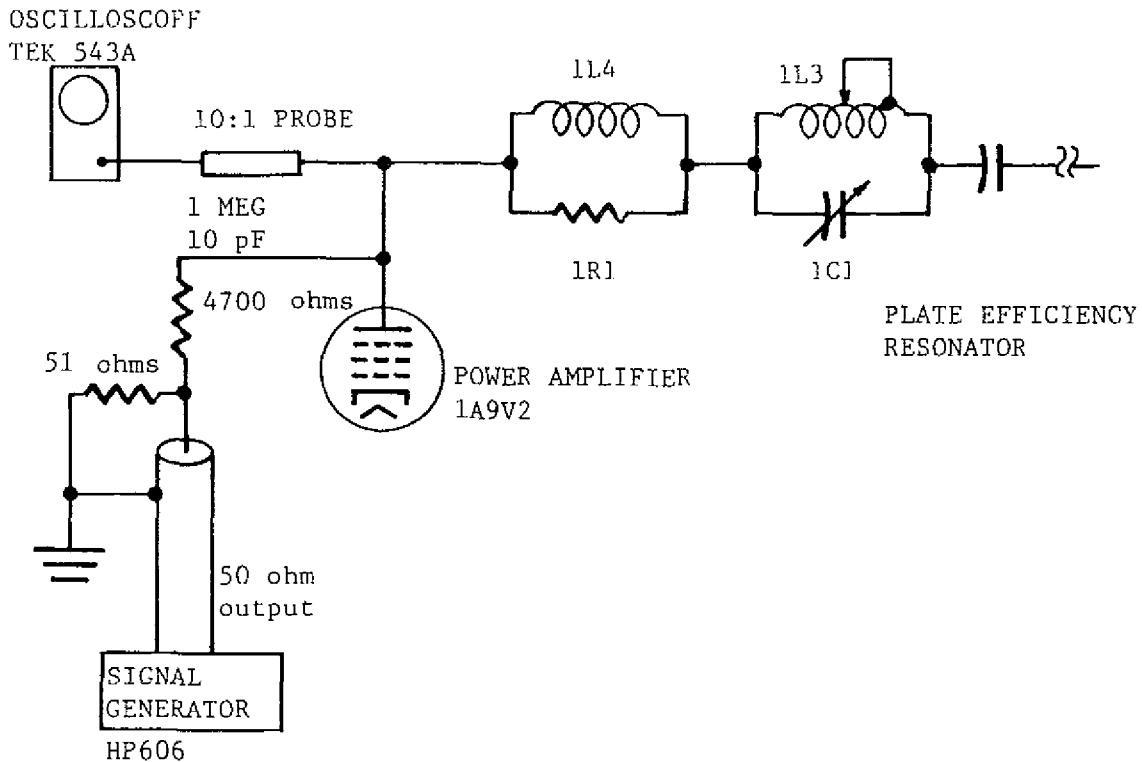

Figure 5-2. Test Setup for Efficiency Resonator Adjustment for PA Plate
- Connect test equipment as shown in figure 5-2.